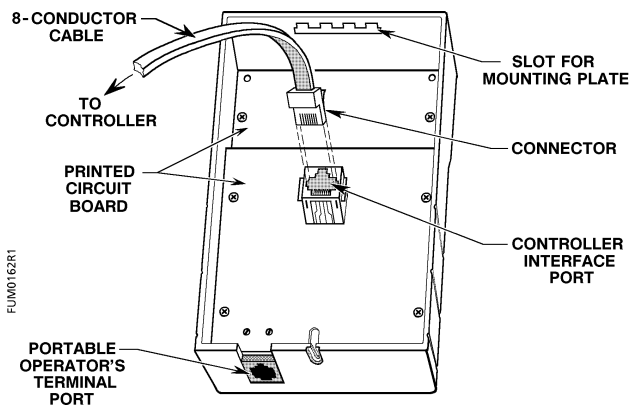

Figure 3. ODP Wiring.
NOTE: Make sure that there is enough clearance for the controller interface port on the ODP (Figure 3).
4. Pull the 8-conductor phone cable through the plate and connect it to the ODP at the controller interface port (Figure 3).